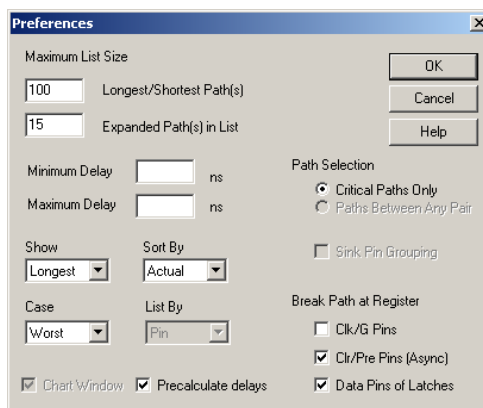

Figure 2-9. Timer Preferences Dialog Box
1. **In the File menu, click *Preferences*.** The Preferences Dialog Box appears, as shown in Figure 2-9.
1. **In the File menu, click *Preferences*.** The Preferences Dialog Box appears, as shown in Figure 2-9 on page 36.
1. **In the File menu, click *Preferences*.** This displays the Preferences dialog box (see Figure 2-9 on page 36).
Normally, Timer displays only critical paths. Critical paths are the longest path between any of the starting points (terminals) and each ending terminal. If you would like to see the timing of all paths between any of the starting terminals and any of the ending terminals, select Paths Between Any Pair in the Path Selection area of the Preferences dialog box, Figure 2-9 on page 36. Selecting Critical Paths causes only the critical paths to be displayed.
By default Timer displays paths that break at all clock, gate, clear, and preset pins. If you would like to display paths that pass through these pins, un-select the appropriate pins in the Break Path at Register options in the Preferences dialog box, as shown in Figure 2-9 on page 36.